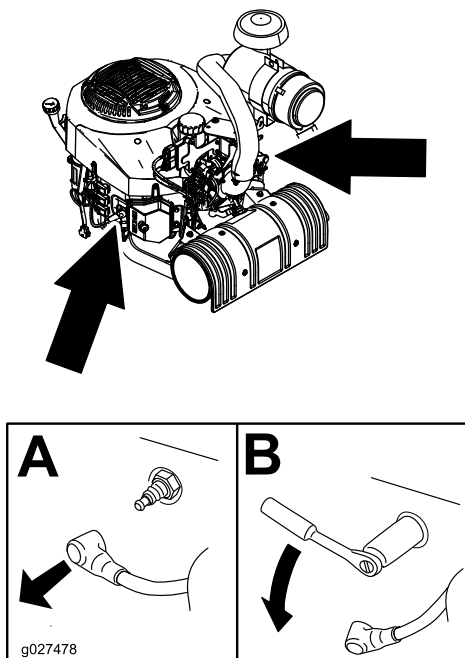

Figure 37
3. Locate and remove the spark plug(s) as shown in Figure 37.